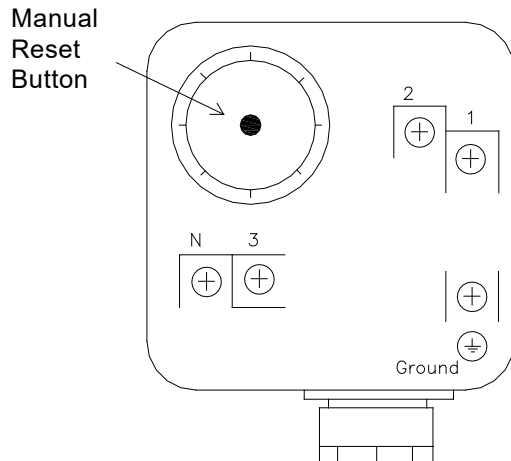

Figure 20: High/Low Gas Pressure Switch
10. If the high or low gas pressure switch tripped, it must be manually reset before the appliance can be restarted. (See Figure 20)